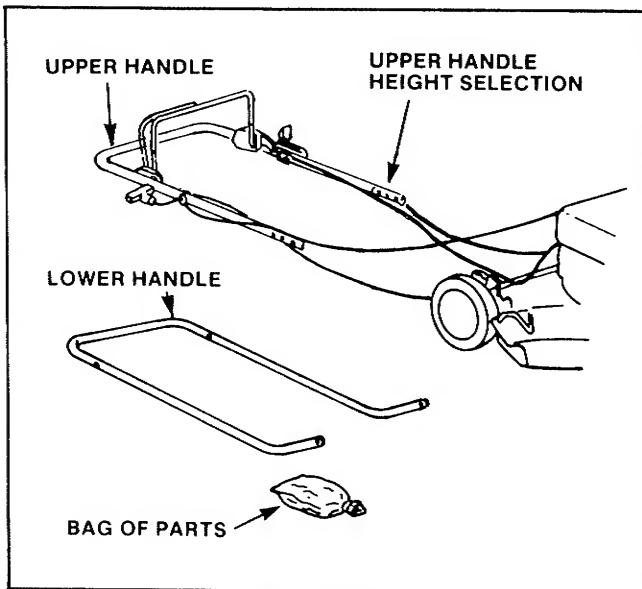
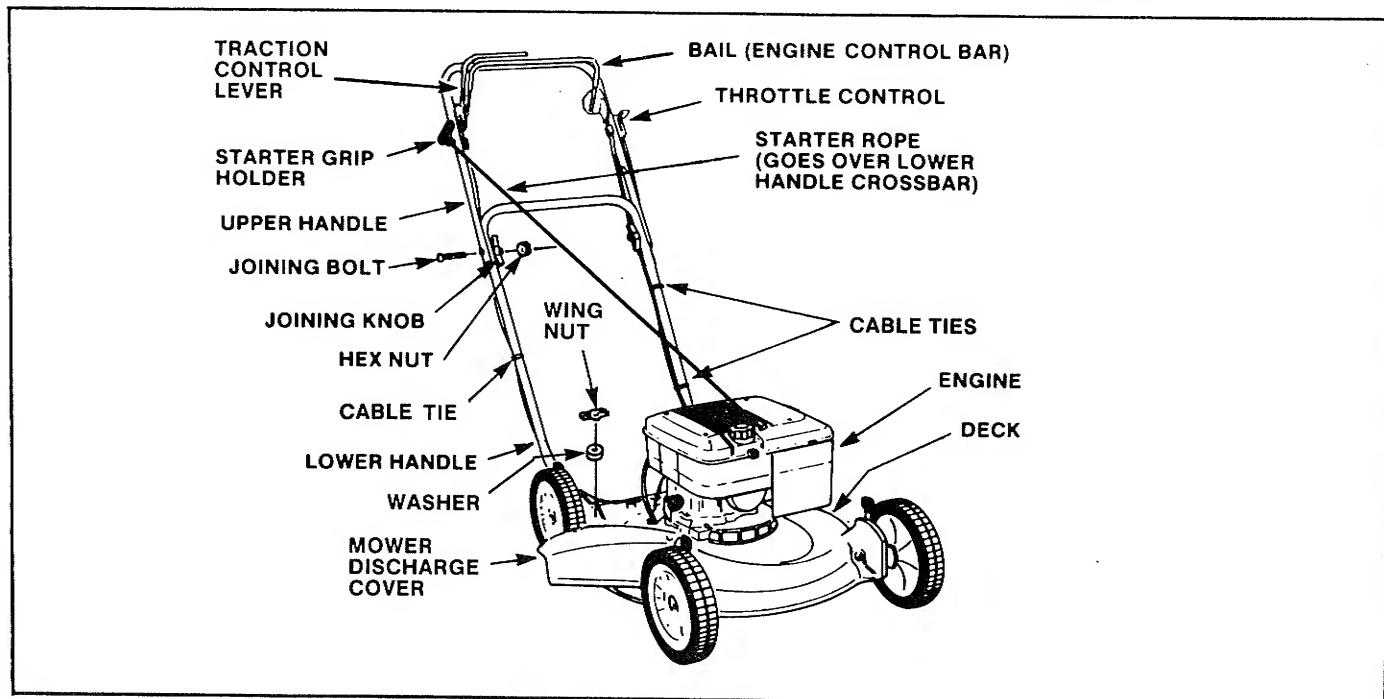

FIGURE 1
FIGURE 2
## ASSEMBLING HANDLES TO DECK (Figures 1 - 3)
1. Lay the upper handle straight back from the mower so as not to pull or crimp the control cables. Lay the cables between the sides of the handles so they will go *under* the crossbar of the lower handle when the handles are put together. (See Figure 1.)
- c) Select the desired upper handle height (see Fig. 1) and push a joining bolt through holes on left side of handles, (see Figure 2). Before installing a bolt on the right side, slide starter rope up so that it is above the crossbar of lower handle.
5. Attach cable ties (from parts bag) to the lower handle on the straight portions of tubing above the bend of the handle. (See Figure 2.)